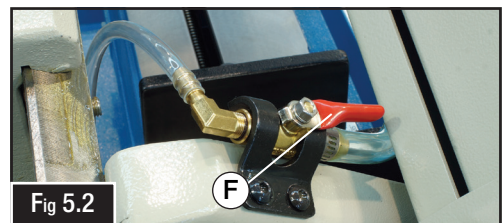

Fig 5.2
- A. **Coolant Shut Off Valve:** This valve controls the flow of the coolant. (Fig. 5.2)